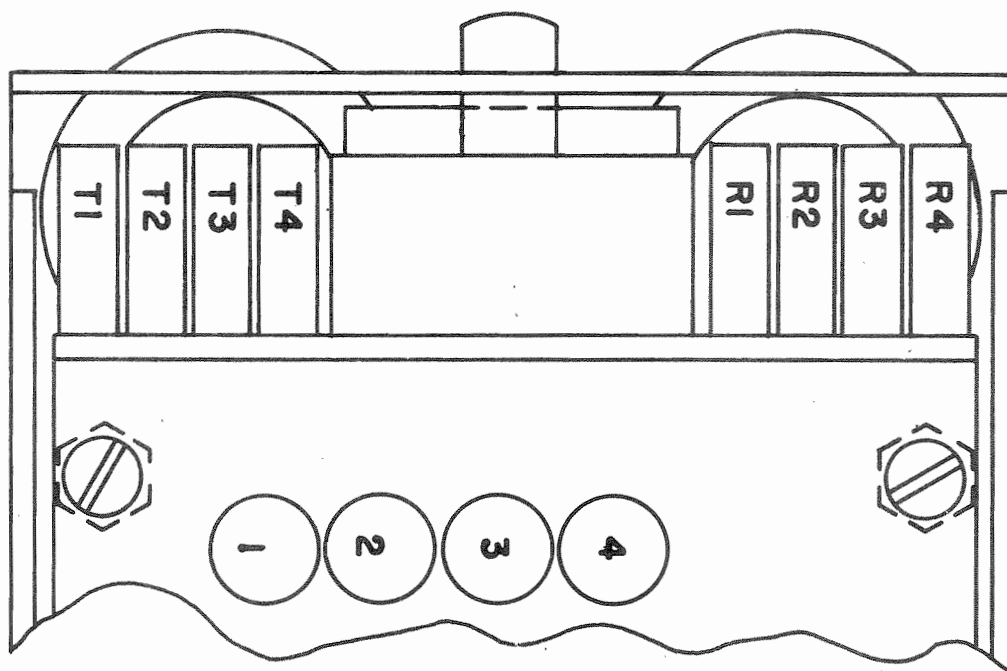

fig. 4 Crystal Location
19.) Install crystals following the switch and trimmer layout in fig. 4. It is possible to jumper receive crystal positions if two positions will be used on the same frequency. For example: 34-94 and 94-94 can use the same crystal in the receive side of the deck. Use fine wire (Teflon insulation is best) and avoid solder bridges.
- 7.) The transmit frequencies maybe adjusted using the four trimmer capacitors adjacent to the small crystal deck board (see fig. 4 for the sequence of these trimmers). A non-metalic alignment tool MUST be used for these adjustments.